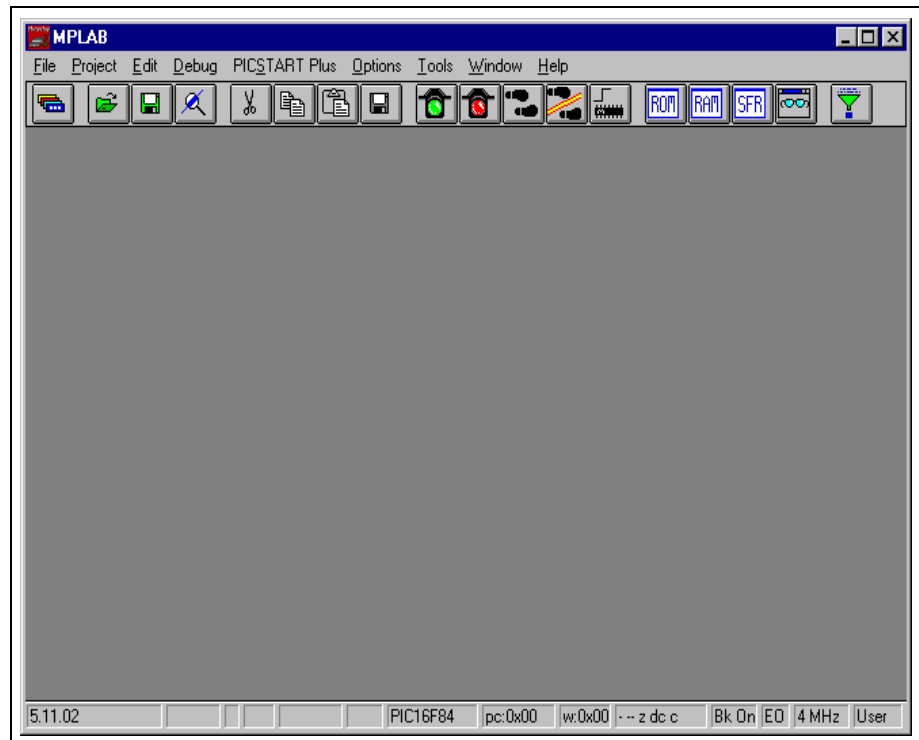

Figure 2.1: MPLAB IDE Desktop
7. Start MPLAB IDE by executing MPLAB.EXE or clicking on the MPLAB IDE icon. You will see the MPLAB IDE desktop as shown in Figure 2.1.